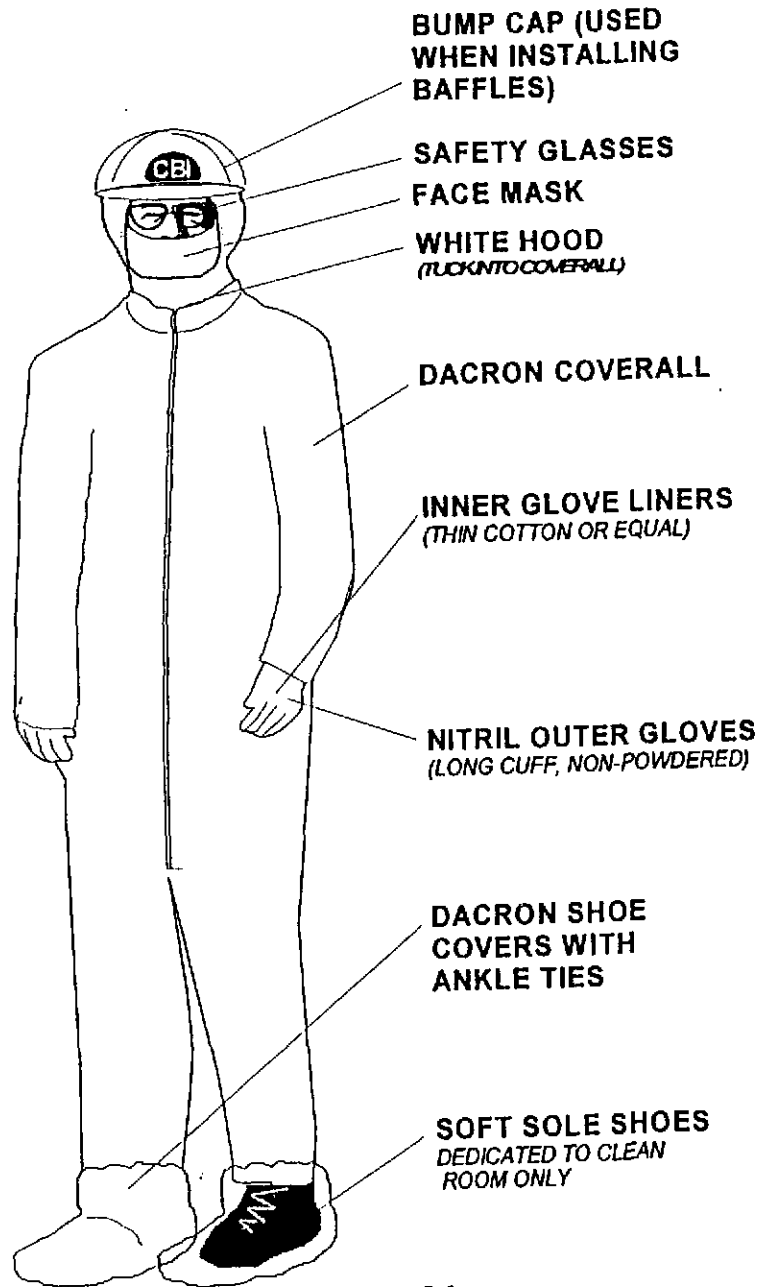

Figure 5.1
5.1 The following is a detailed set of instruction for wearing clean room compatible clothing for access into the Beam Tube. See Figure 5.1 for graphic description. Note that these procedures must be followed before entering the Clean Room.